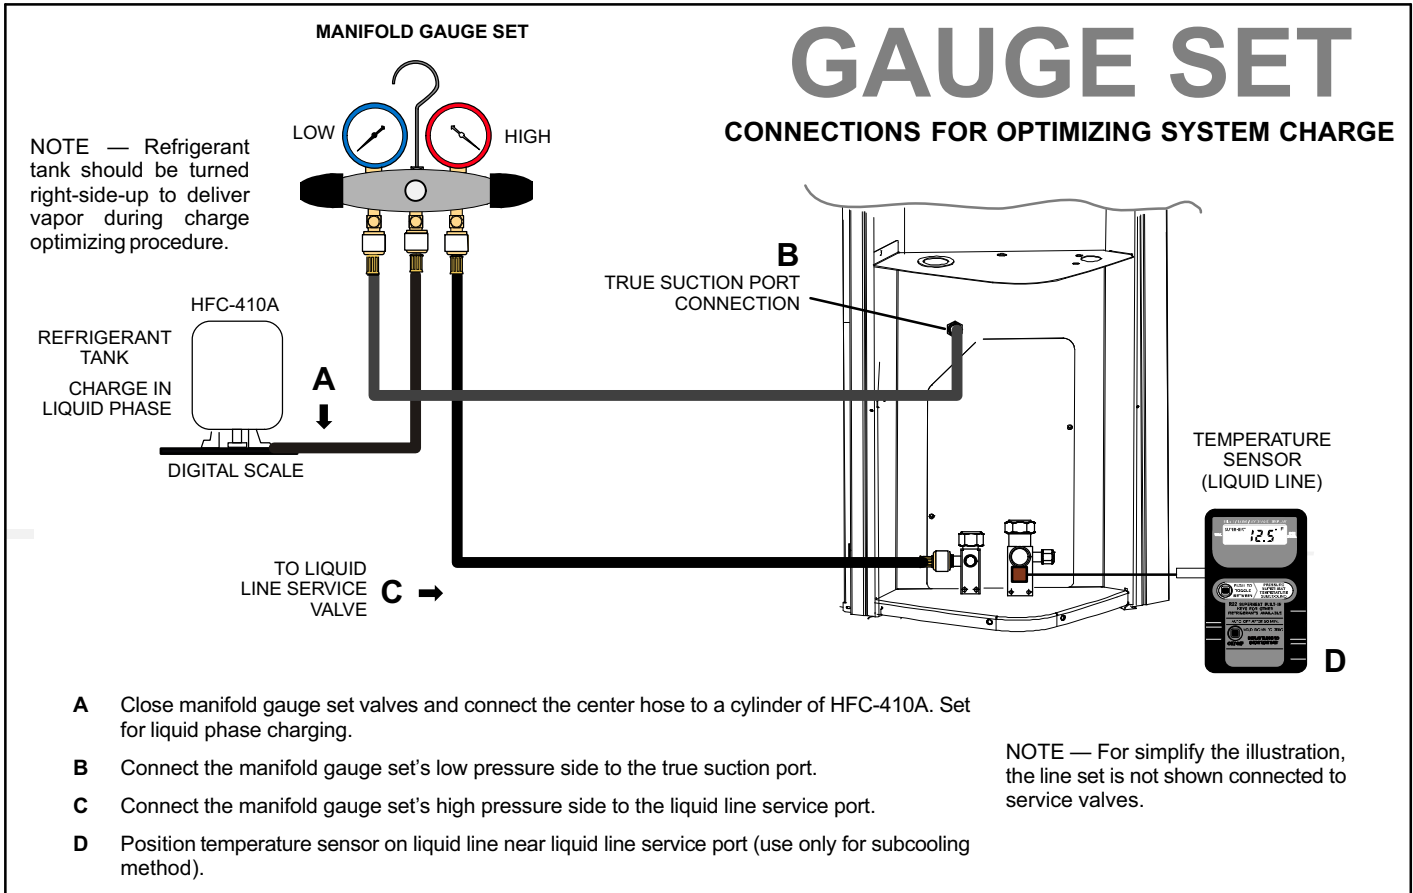

Figure 19. Typical Gauge Set Connections for Initial Weight-in Charge or Optimizing System Charge
3. Verify that the manifold gauge set is connected as illustrated in figure 19. Use a temperature sensor positioned near the liquid line service port as illustrated in figure 19 which will be required later when using the subcooling method for optimizing the system refrigerant charge.
After the evacuation procedure, reconnect the manifold gauge set as illustrated in figure 19.
NOTE - Temperature sensor illustrated in figure 19 is not required for initial system weigh in charging.
1. Close manifold gauge set valves and connect the gauge set as exemplified in figure 19.
1. Move the low-side manifold gauge hose from the vapor line service valve to the true suction port (see figure 19).